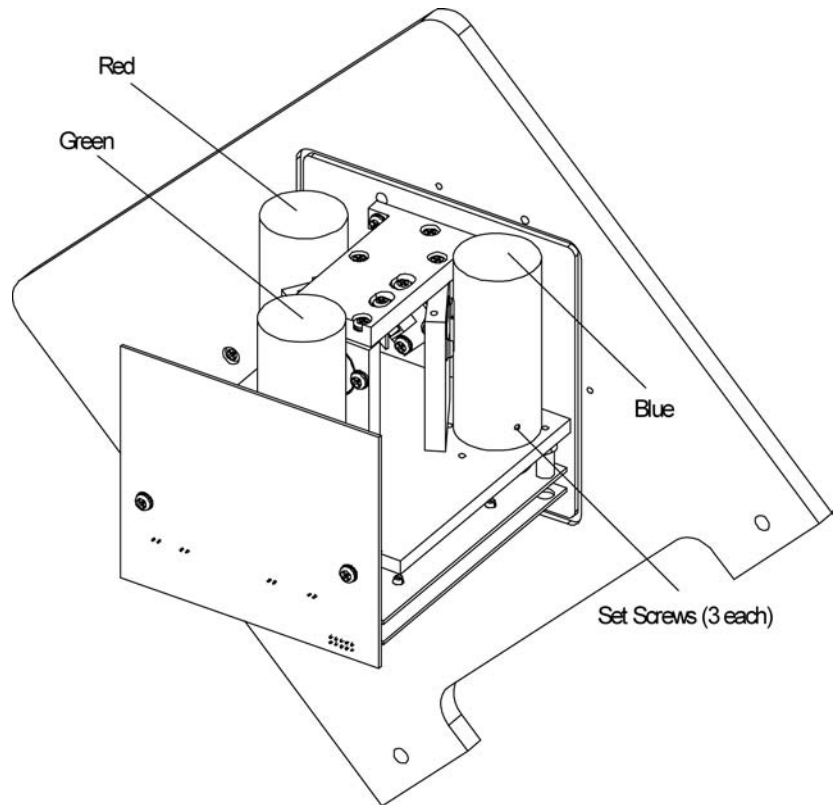

Figure 8-39
3. Each PMT fits inside a magnetic shield (Figure 8-39). To remove the shield and PMT, support the sensor frame with one hand and use your other hand to *gently* rock the shield from side to side as you pull it from its socket.
5. To remove the PMT from the shield, loosen the three setscrews at the base of the shield (Figure 8-39) and withdraw the tube.